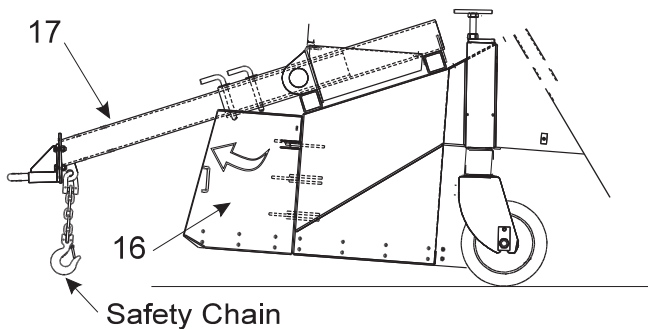

Figure 27
- Extend towing tongue (17) and lock (Figure 27).
- Close front wings and secure (16) (Figure 27).